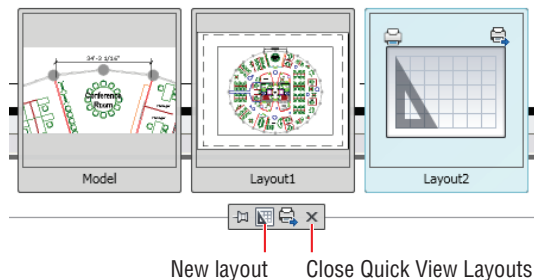

FIGURE 13.12 Creating a new layout through the Quick View Layouts interface
6. Click Quick View Layouts in the status bar. Click the New Layout icon at the bottom of the Quick View Layouts interface that appears at the bottom of the drawing canvas. Click Layout2 to open it (see Figure 13.12). Click the Close Quick View Layouts icon.